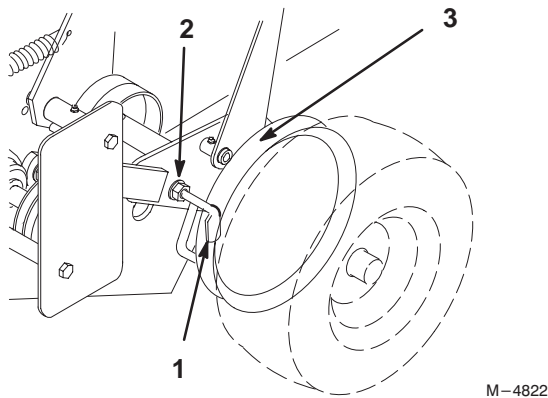

Figure 52
1. Loosen the locknut holding scraper to the engine frame (Fig. 52).
2. Rotate scraper until they align with center of pulley grooves (Fig. 52).
3. Tighten the locknut (Fig. 52).